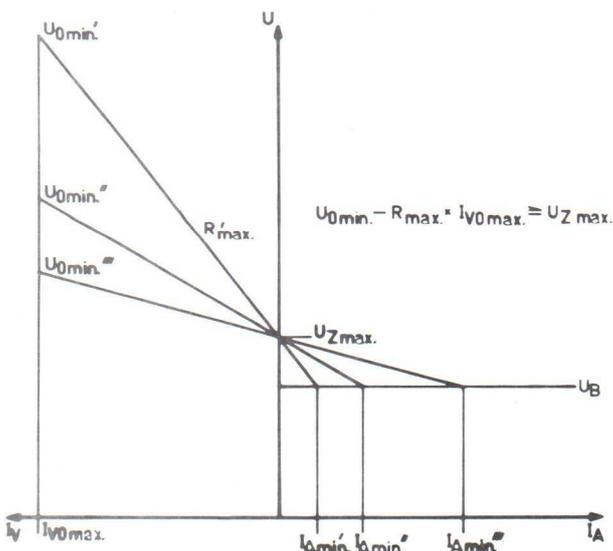

Fig. 13: Firing condition.
Before the stabilizing action can take place, the tube must be fired. The breakdown voltage (firing voltage)  $U_Z$  of a tube is always higher than the maintaining voltage. If no load current is present when the supply voltage is switched on, the only condition is:  $U_{0min} > U_Z$ . If, however, a load current is initially present, the value of which shall be  $I_{V0max}$  (at  $U_1 = U_Z$ ), the circuit must be designed in such a manner that the voltage across the tube exceeds  $U_Z$ . Figure 13 shows that the required minimum supply voltage  $U_{0min}$ , that secures correct firing of the tube, will be higher with
c) The tube must fire when the supply voltage is switched on (firing condition, figure 13).